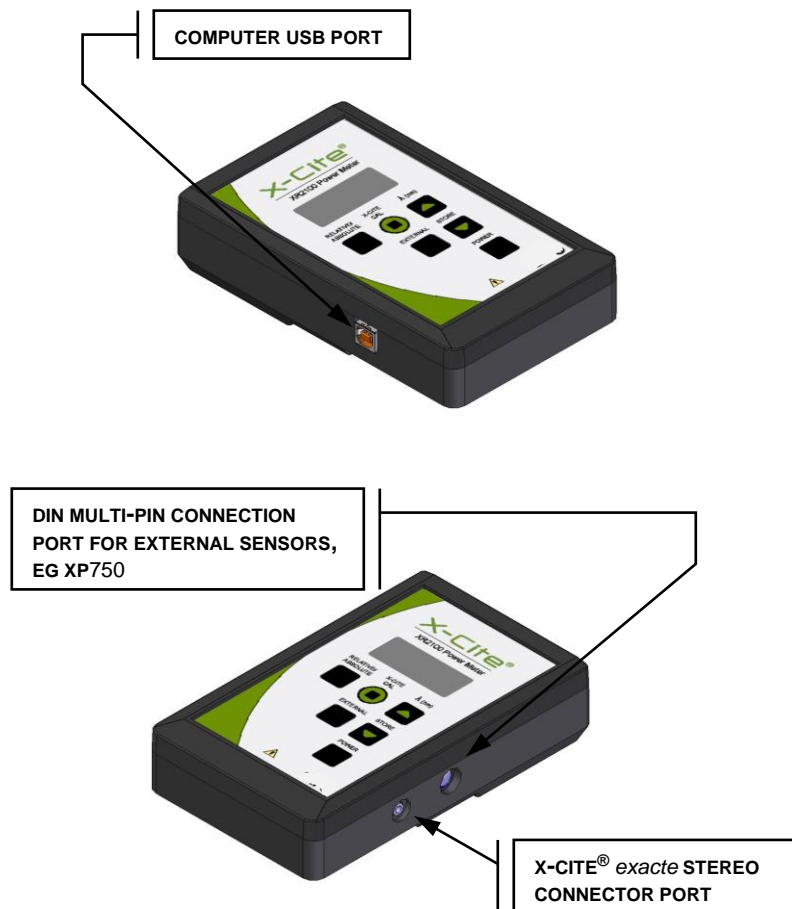

Figure 4 XR2100 Optical Power Meter Connections
- 4.2.1 Plug the XP750 multi-pin connector into the XR2100. Refer to Figure 4 for connecting cable locations.
- 4.3.1 Plug the XP750 multi-pin connector into the XR2100. Refer to Figure 4 for connecting cable locations.
8.1.2 **Connect a USB cable to the XR2100 and the Computer USB port. Refer to Figure 4 for connecting cable locations.**
8.1.3 Connect XP750 to the XR2100. Refer to Figure 4 for connecting cable locations.
8.1.4 If using or calibrating the X-Cite® *exacte*, connect the XR2100 to the X-Cite® *exacte* unit using the supplied Stereo Connection Cable (refer to Figure 4). Connect the X-Cite® *exacte* to the computer using the USB connection (USB cable is supplied with the X-Cite® *exacte* unit).